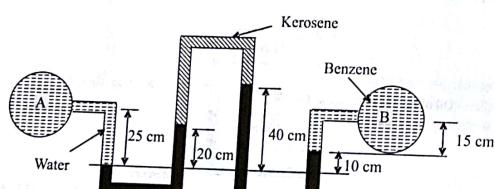

Figure 12.20
- 12.7 A multi-tube manometer is used to determine the pressure difference between points A and B as shown in Fig.12.20. For the given values of heights, determine the pressure difference between points A and B. Specific gravities of benzene, kerosene and mercury are 0.88, 0.82 and 13.6 respectively.